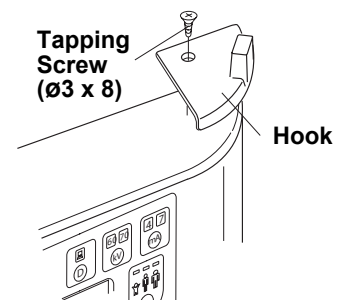

Fig.3-32 Attaching Hand Exposure Switch Hook
- Place the hook on the top corner (right or left) of controller and attach it with the tapping screw (ø3 x 8mm). (Fig.3-32)